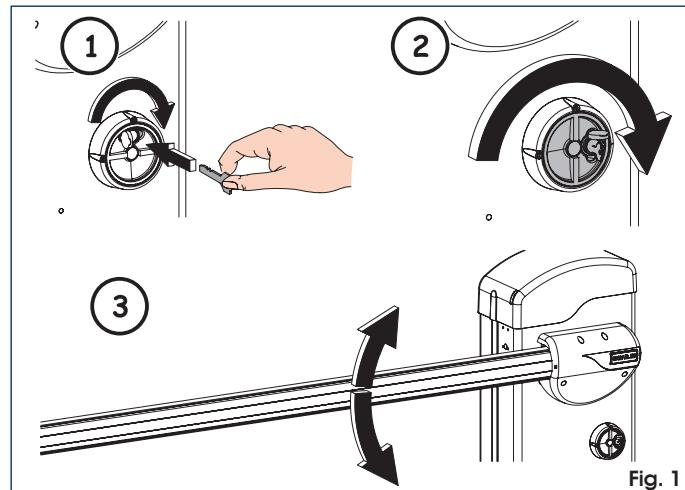

Fig. 1
- Insert the key into the release device and turn it clockwise until it stops, as shown in fig. 1 ref. ①.
- Turn the release device clockwise until it stops, fig. 1 ref. ②.
- Move the rod by hand, fig. 1 ref. ③.